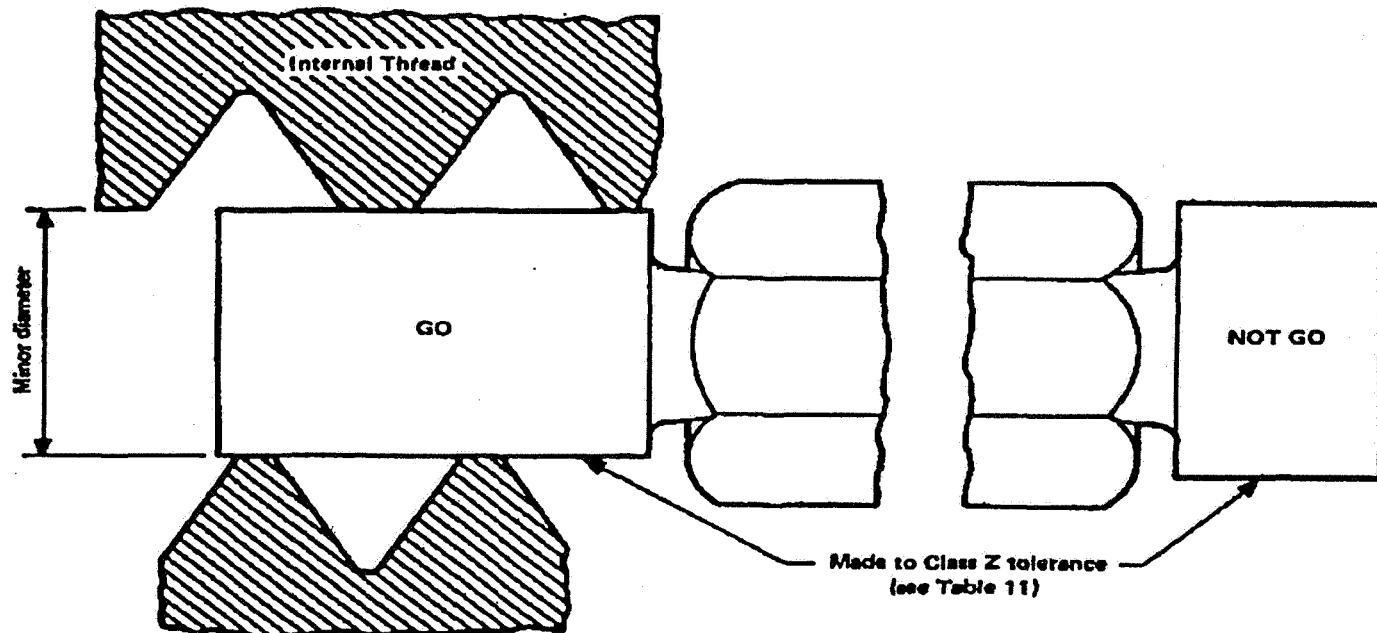

Figure 74 - Internal Thread Minor Diameter Gage
- Minor diameter (See Figure 74)